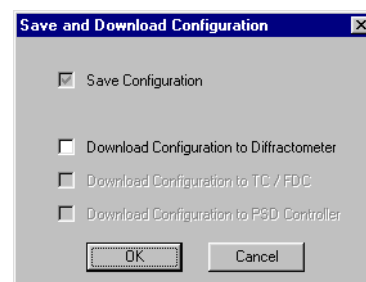

Figure C.5 - Download configuration window
7. Upon saving, the software intelligently decides whether it needs to download the configuration information to the diffractometer. A window appears showing whether the software will do this or not (in Figure C.5, the configuration will not download). Accept the default and click **OK**.